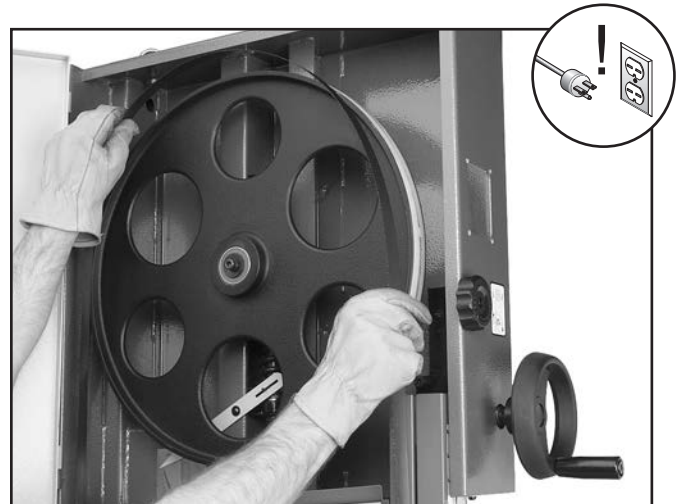

Figure 52. Typical example of placing blade on the wheels.
2. Slip the blade through the guides, and mount it on the upper and lower wheels (see **Figure 52**).